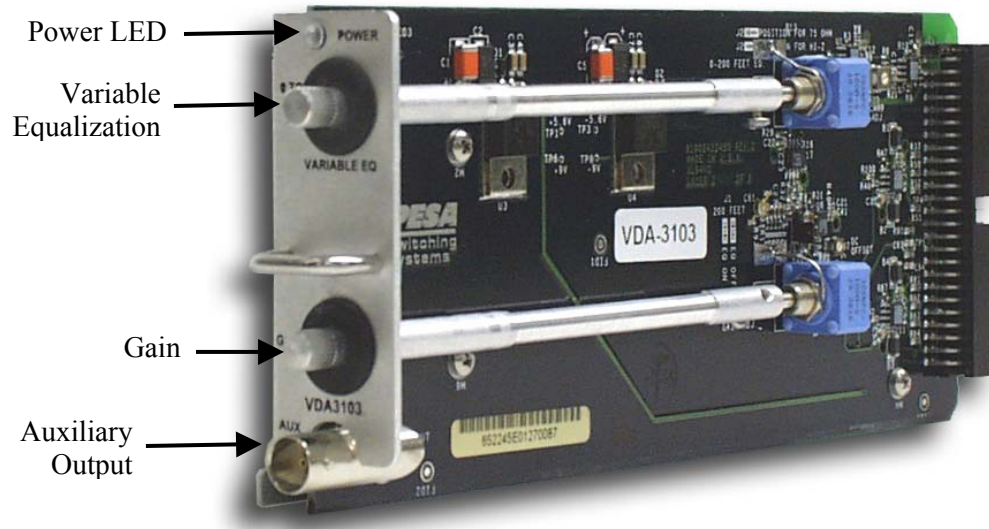

FIGURE 44: VDA3103 Card
The VDA3103 card (see Figure 44) is used with the VDA3100T and/or VDA3100L frames. This card is an analog video distribution amplifier for ultra-wideband applications to 250MHz that supports one input and eight outputs (1x8).
The function of the VDA3103 Power LED (see Figure 44 for location) is to provide a visual indication to the user that the on-board voltage regulators are operational and the board is energized. The power LED should be illuminated during normal operation. If the power LED dims or extinguishes during operation, check the operation of the VDA3100 mainframe's power supply. If the mainframe's power system is operational and the other distribution cards appear operational, then the board should be suspected of malfunctioning and should be replaced.
- The gain adjustment allows the user to adjust the level of the VDA3103 card's distributed signals. Adjust the gain for overall unity using the **Gain** adjustment knob (see previous Figure 44 for location). Clockwise rotation increases the gain and counterclockwise decreases the gain.
3.3.3.2 VDA3103 Variable Equalization (EQ) Adjustment
- 1) Adjust the VDA3103 card for signal EQ for all input/output signals by using the Variable Equalization adjustment knob (see previous Figure 44 for location), adjust for the best signal quality. Clockwise rotation increases the EQ and counterclockwise decreases the EQ.